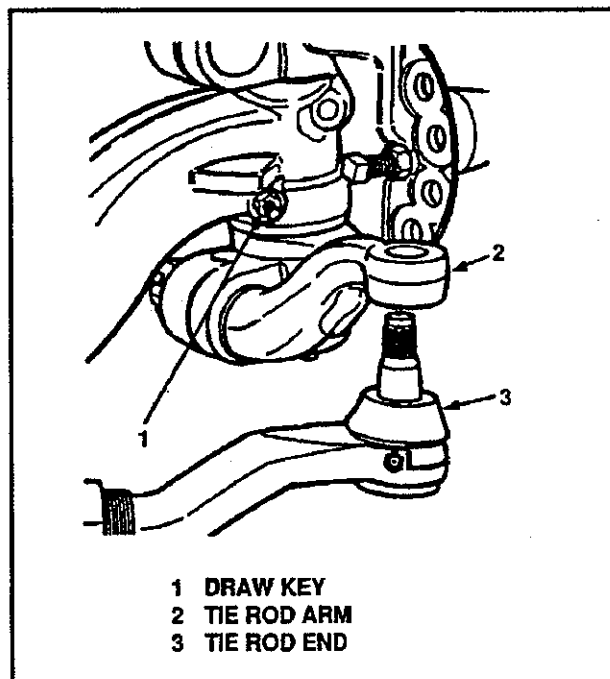

Figure 21—Separate Rod End From Rod Arm
2. Separate the tie rod assembly from the tie rod arms, using a tie rod separator tool. (See Figure 21—Separate Rod End From Rod Arm.)